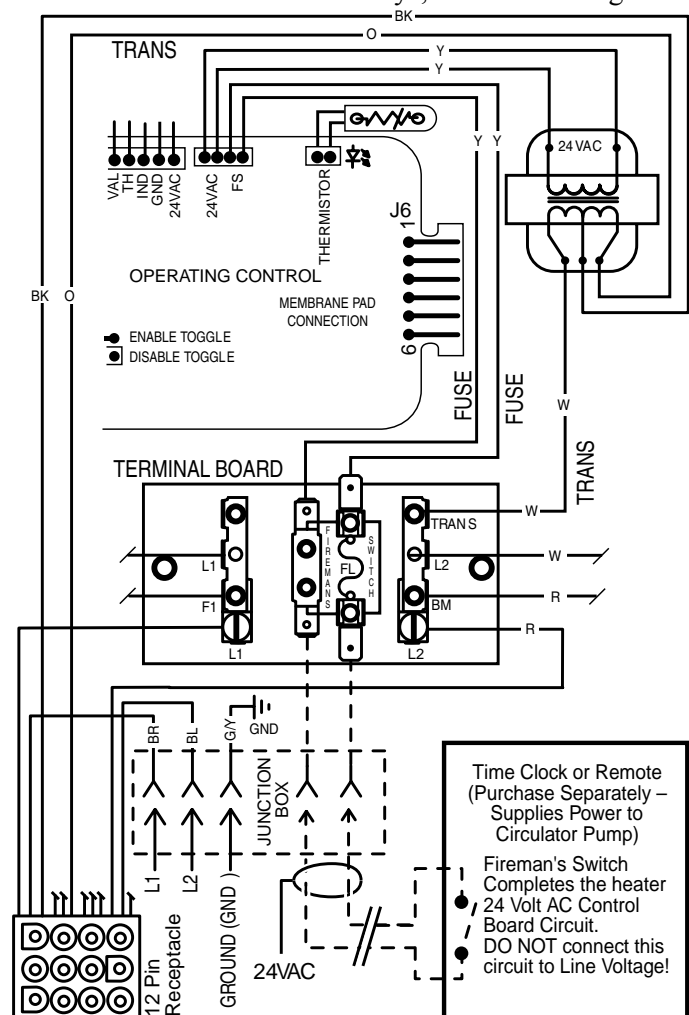

Figure 32.
- Connect wires between the control board terminals on the heater and the external relays, as shown in Figure 32 below. Use at least 2 relays per heater, to allow for an "OFF setting" on each heater mode. Select relays that can handle logic level switching. **DO NOT** apply line voltage to control board terminals.